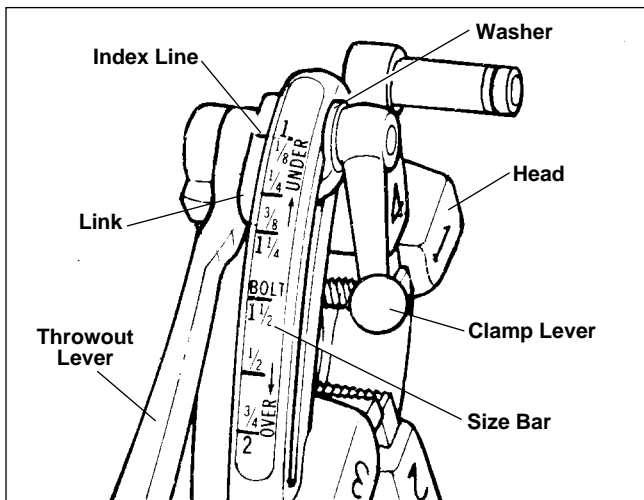

Figure 11 – Universal Quick-Opening Die Head
6. Quick-Opening 811A Die Head (Figure 11) – When thread is completed, raise throwout lever to open position, retracting dies.
The No. 811A Universal Die Head (Figure 11) for right hand threads requires four sets of dies to thread pipe ranging from 1/8" through 2". One set of dies is required for each of the following pipe size ranges: (1/8"), (1/4" and 3/8"), (1/2" and 3/4") and (1" through 2"). Bolt threading requires a separate set of dies for each bolt size. No bolt dies are available for left hand universal die heads.